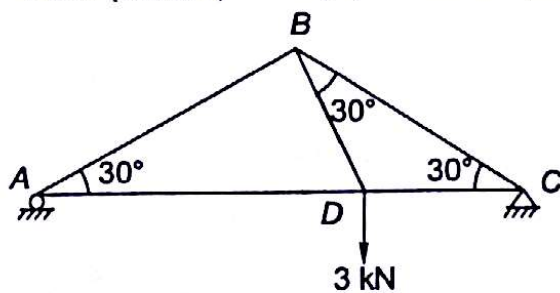

Fig. 4.43
- 4.14 A truss $ABCD$ roller supported at A hinged at C , carries a vertical load of 3 kN at D as shown in Fig. 4.43. What is the magnitude and nature of force in member AB ?